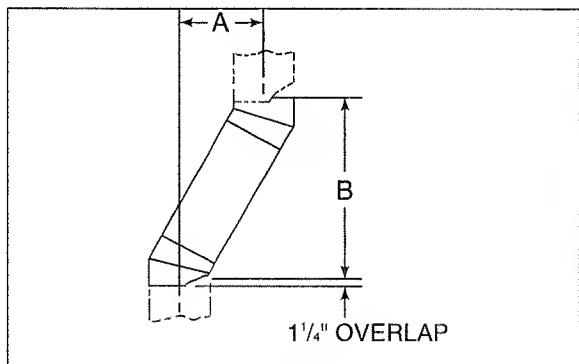

Figure 6
1. Measure how far the chimney needs to be shifted to enable it to avoid the overhead obstacle. See Figure 6 (page 12), dimension "A".
Example: Your "A" dimension from Figure 6 is $14\frac{1}{2}$ ". Using Table 1, the dimension closest to but not less than $14\frac{1}{2}$ " is $14\frac{5}{16}$ " using a 30° offset/return. It is then determined from the table that you would need $33\frac{1}{16}$ " (Dimension "B") between the offset and return. The chimney components that best fit your application are two SL412's.